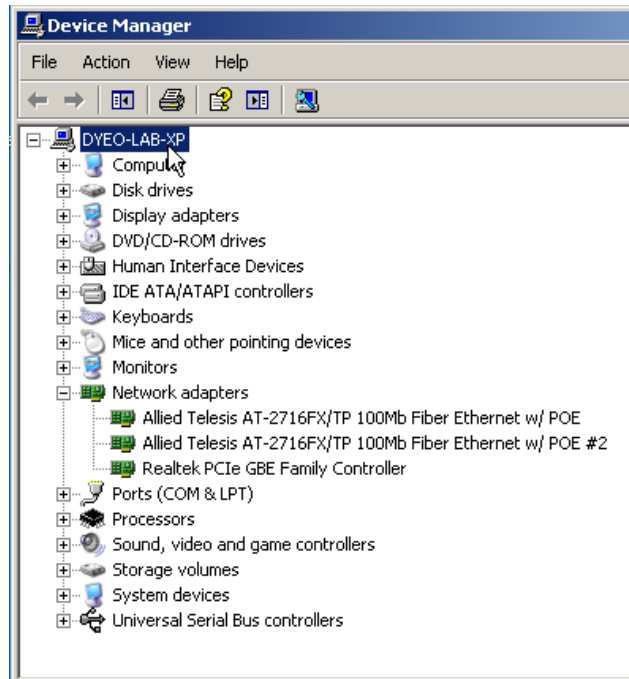

Figure 17. Windows Device Manager Window
The Windows Device Manager window is displayed. For an example of the Device Manager window, see Figure 17.
3. To select the Device Manager in the Windows 7 Operating System, select the Start button. See Figure 17 on page 41.